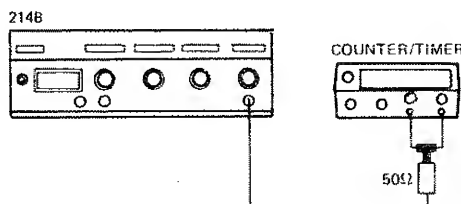

Figure 4-5.
9. Change Test setup as shown in Figure 4-5 to measure Pulse Width in the 4 highest ranges. Set 214B controls as follows: